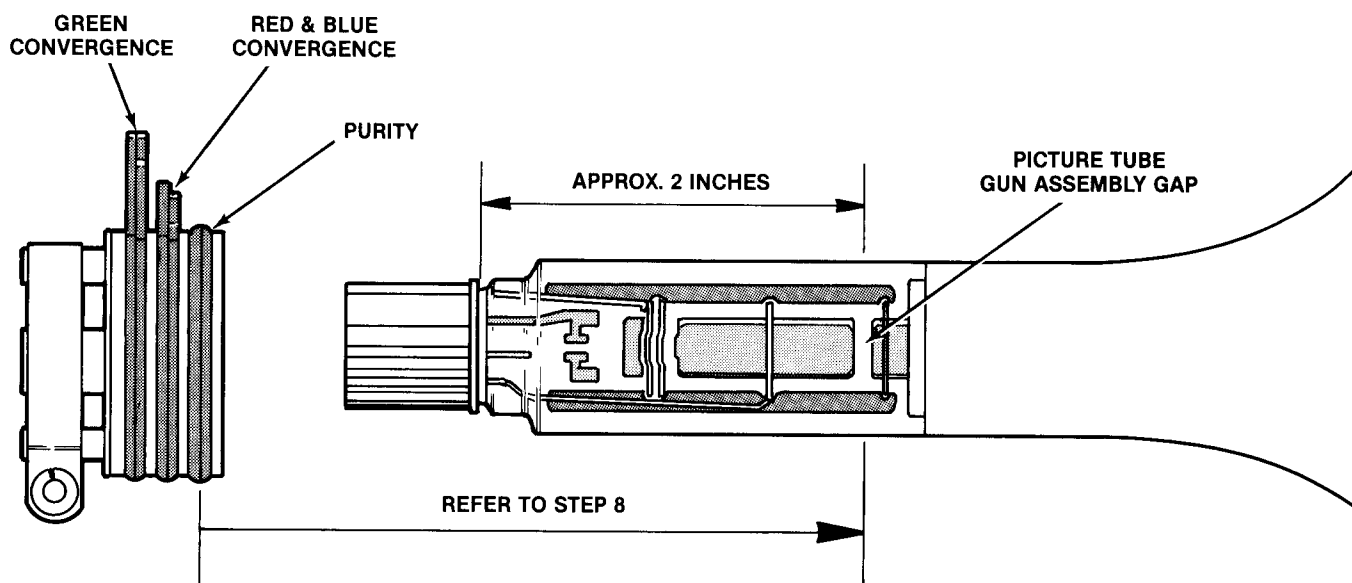

Figure 3 Purity and Convergence Adjustments
8. Position the magnet assembly so that the purity rings shown in Figure 3 are positioned as closely as possible over the gap in the gun assembly. This is about 2 inches forward from the start of the picture tube neck glass.
14. Adjust the purity rings of the magnet assembly shown in Figure 3 so that the green band is horizontally equal to the red and blue bands on either side.
- b. Spread or close the ring tabs of the red and blue convergence magnets to superimpose the red and blue vertical lines in the center of the screen area. This will produce magenta vertical lines. These magnets are shown in Figure 3.
- e. Adjust the angle between the tabs of the green convergence magnets, shown in Figure 3, to superimpose the green vertical lines with the magenta vertical lines already converged in the center of the display screen.